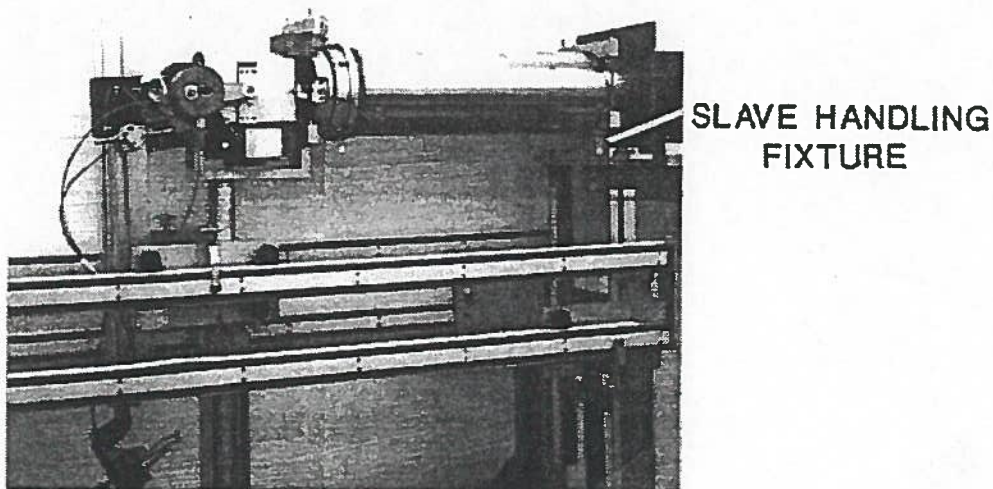

FIG. 27
9. Elevate the slave jack and secure the manipulator to the slave handling fixture (Fig. 27).